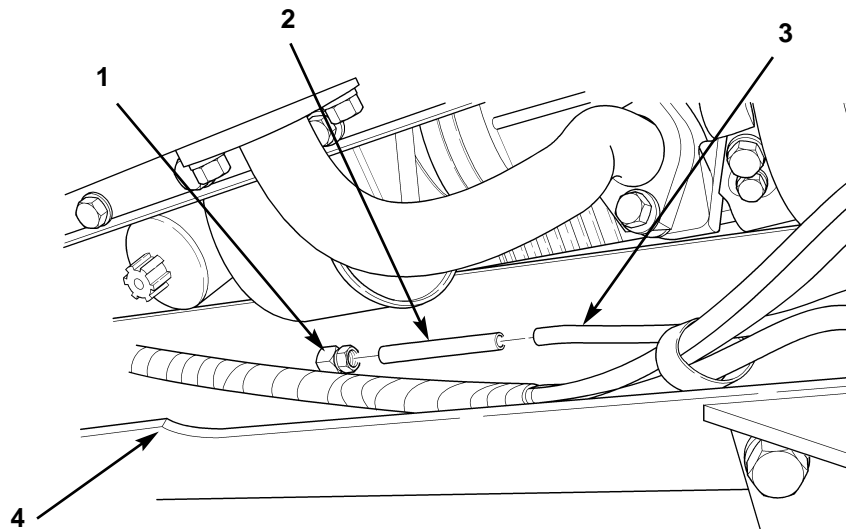

Figure 39. Cutting Existing Front Brake Tube for Reuse.
1. Working from inside left frame rail (figure 39, item 4) at front of truck, measure and cut tube (figure 39, item 3) 4-1/2 in. (114 mm) from elbow (figure 39, item 1), and remove 4-1/2 in. (114 mm) tube (figure 39, item 2) from elbow (figure 39, item 1). Retain both pieces of tubing for installation.